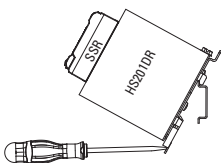

fig. 4 DIN Rail Mounting
- ◆ For DIN Rail Mounting install as shown in **fig. 4**. Vertical mounting operation is recommended.